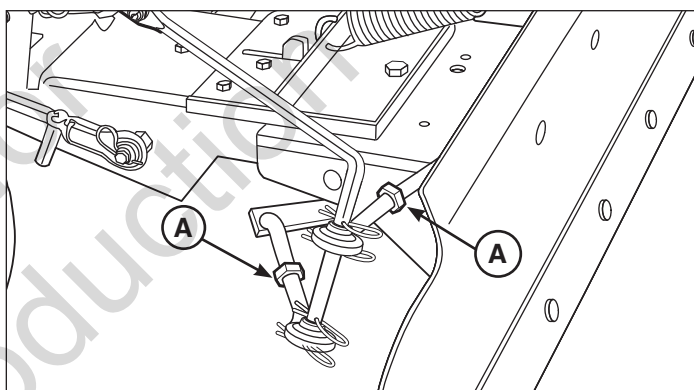

Figure 19
6. Tighten ball joint locking nuts (A, Figure 19).